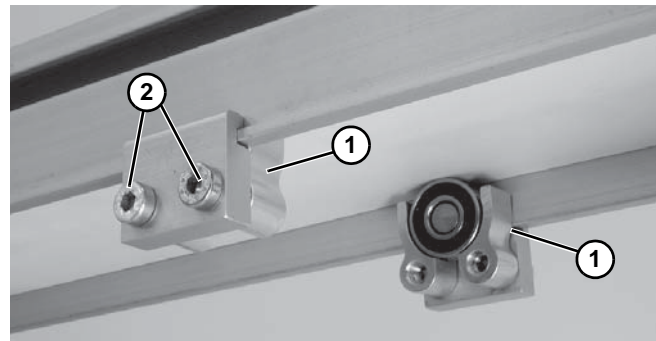

Figure 14
3. Install roller assemblies (**Figure 14, item 1**) as shown. Tighten screws (**Figure 14, item 2**) to 60 in-lb (7 Nm).